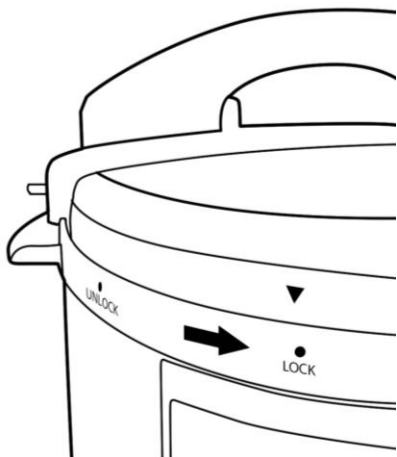

Figure 4
Please note the "UNLOCK" and "LOCK" markings on the rim of the pressure cooker body (13) and the "▽" on the rim of the Lid (2). To properly close and secure the pressure cooker Lid (2), always line up the "LOCK" marking on the Upper Ring (9) and the "▽" on the rim of the Lid (2) (see Figure 4).